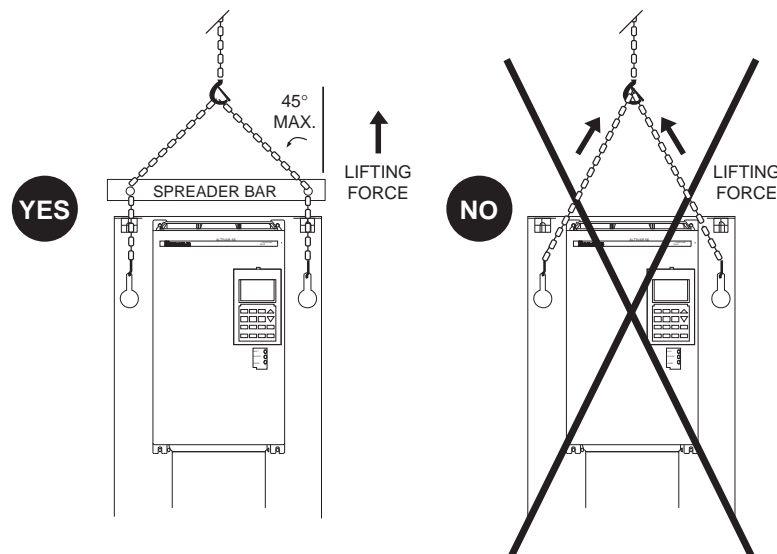

Figure 73: Hoisting Class 8839 ALTIVAR 56 Combination Devices
- With a hoist, attaching a spreader bar to the two lifting holes on top of the drive controller back panel (see Figure 73).
Keep area below any equipment being lifted clear of all personnel and property. Use lifting method shown in Figure 73.
To hoist the drive controller, attach a spreader bar to the lifting holes located on top of the drive controller back panel, as shown in Figure 73. Handle the drive controller carefully to avoid damage to the internal components, frame, or exterior. Place the drive controller in an upright position.